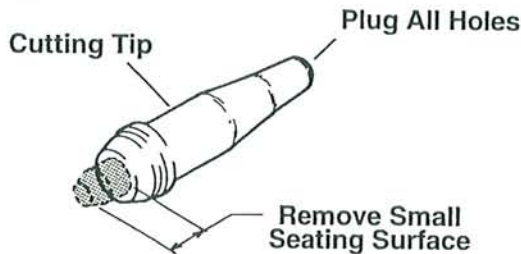

Figure 4: Plugged Tip with Small Seating Surface Removed
Plugged Cutting Tip with the Small Seating Surface Removed (see Figure 4)
8. Install the cutting tip that has been plugged and altered as shown in Figure 4. The small seating surface must be removed to allow the gases to reach the internal check valves.